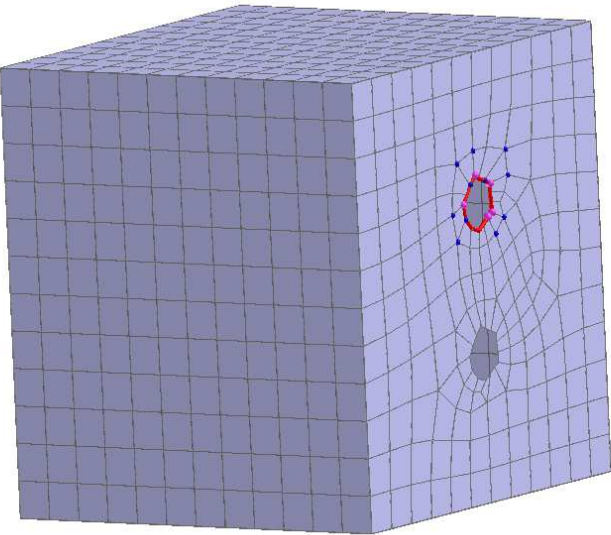

Figure 9.37: Pick nodes to create a seam.
- Pick the nodes until you see a circular seam following the edge of the hole as shown in Figure 9.37.